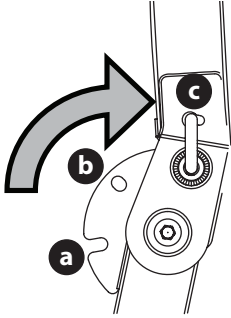

Figure 5
2. Move the ROPS into the desired position (Figure 5).
**NOTE:** The three positions are TRANSPORT (a) position, TRANSPORT WITH BAGGER (b) position, and into the OPERATION (c) position (Figure 5).